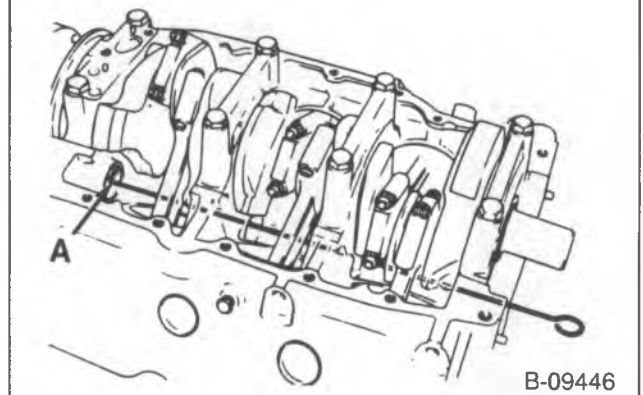

Figure 21—Checking Camshaft Bearing Oil Hole Alignment (Typical)
- Make sure the camshaft bearing hole (or holes) align with the oil hole (or holes) in the block. On some engines, the oil holes may be difficult to see. If so, use a piece of 2 mm ³/₃₂-inch rod as shown in figure 21 to check alignment.
**Disassemble (Figures 21 through 26)**